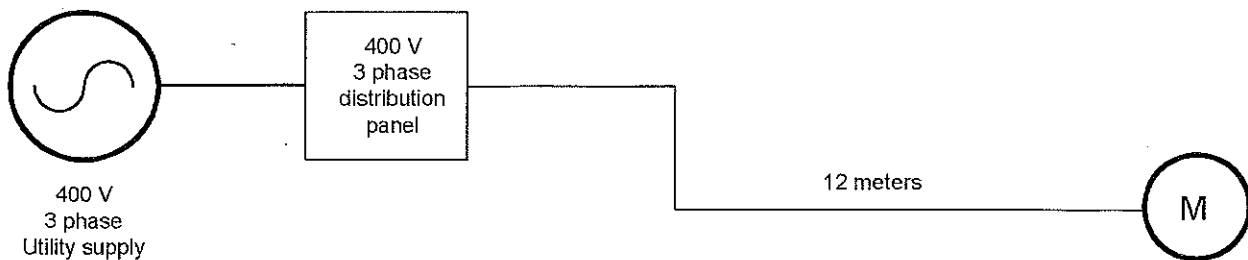

Figure Q1
1. A utility supplies three-phase power to a three-phase distribution board power panel. The power panel supplies power to a 50kW three-phase motor operating at 0.85 power factor as shown in figure Q1.